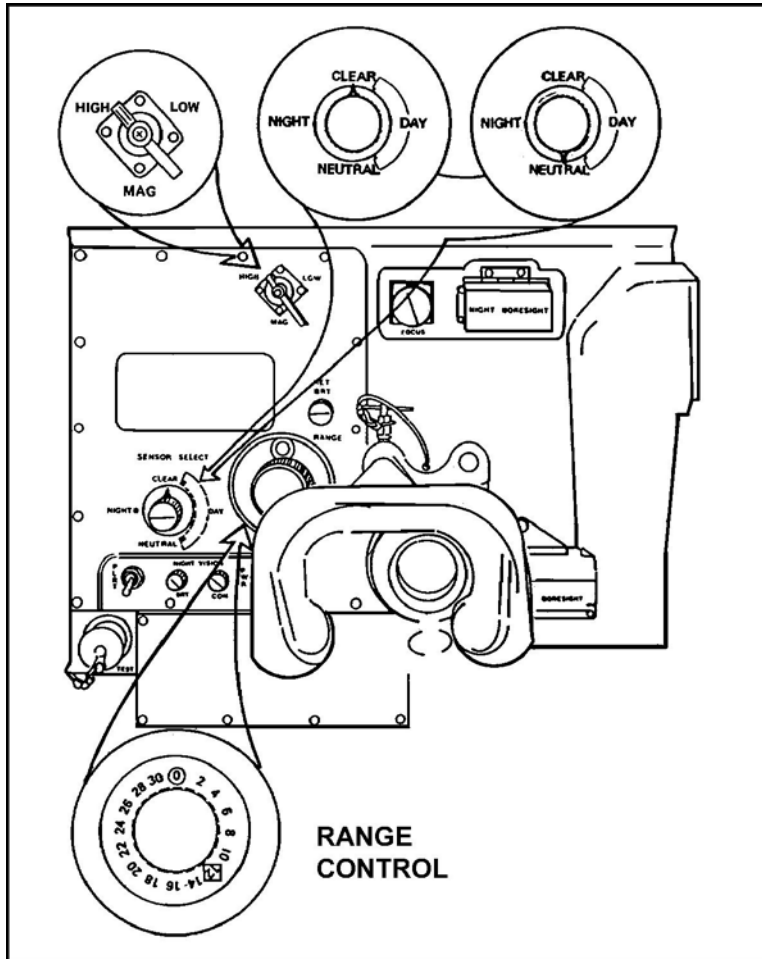

Figure 1. MAG switch, sensor select switch, and range control knob.
5. Set the daysight controls on the ISU (Figure 1).